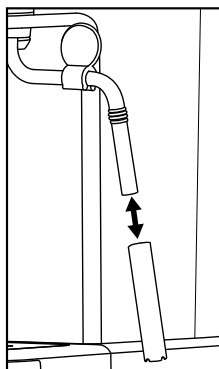

Figure 3
- 5) Pull the casing of the milk frother **10** off (Figure 3) and clean it thoroughly in warm water.
- 7) Push the casing back onto the milk frother **10** (Figure 3).